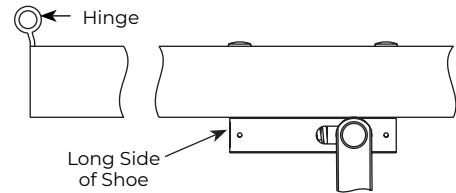

Figure 21 View from ceiling looking downward
**NOTE:** Orient shoe with short side of shoe toward hinge. (Figure 21)